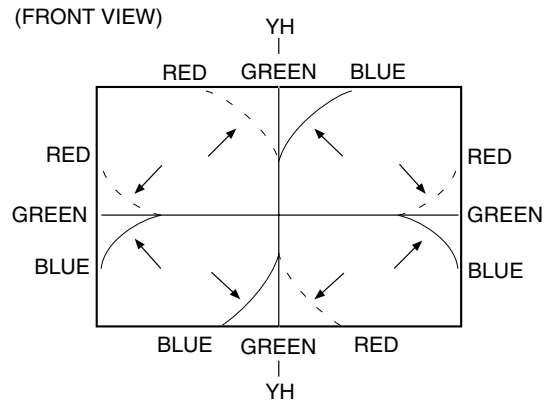

Fig. 14
1. Using the Y_H VR on the deflection yoke, match the Y_H (CROSS). (Fig. 14 and 17)